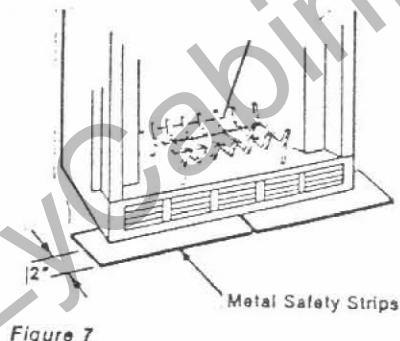

Figure 7
Step 2: Insert the metal hearth strips, packaged with your fireplace beneath the fireplace as illustrated (Figure 7).